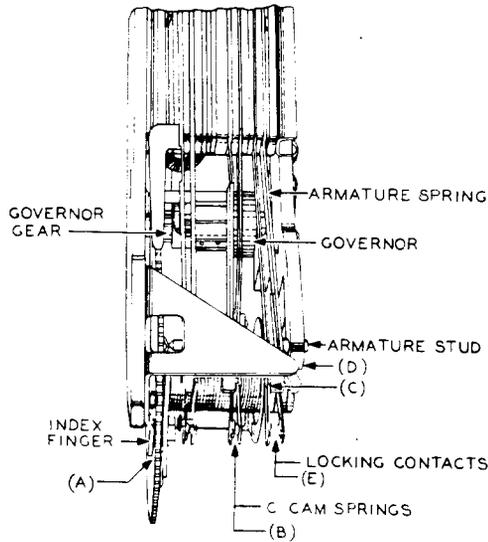

Fig. 12 - Engagement of Governor Gear and Pinion
2.13 Index Finger Position: Fig. 12(A) -
- * (e) Armature Spring Tension: Fig. 12(D) - The tension of the armature spring shall be such that the force required to move the armature away from the armature adjusting screw shall be
(b) "C" Cam Contacts: Fig. 12(B) - With the armature electrically operated and the timer gear rotated so that the C spring finger rests on the flat of the "C" cam, the contact separation shall be
(c) Locking Contacts: Fig. 12(E) - With the armature unoperated, the contact separation shall be
2.22 Contact Follow: Fig. 12(C) - With the armature electrically operated and the timer gear normal, the clearance between the tang on the solid locking contact spring and its stop shall be